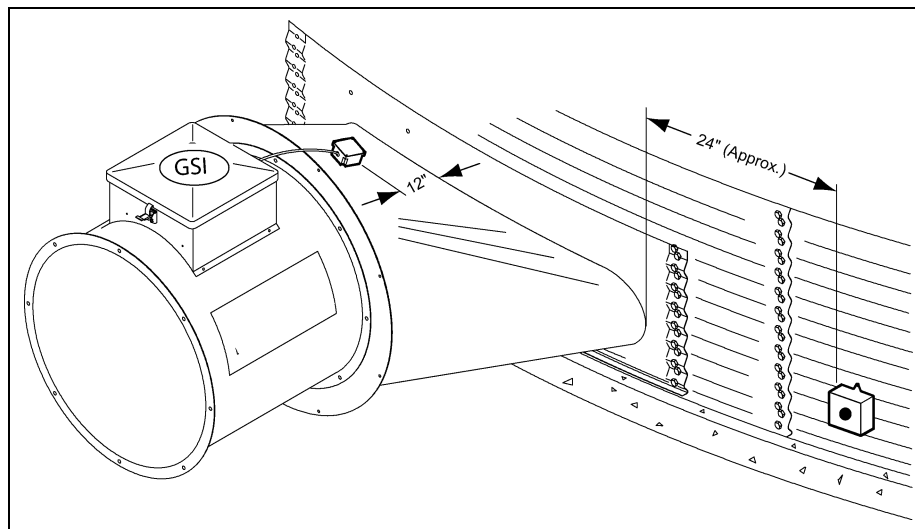

**Figure 3C**
**IMPORTANT:** When mounting two (2) heaters on a bin it is imperative that they be situated as in Figure 3C. Plenum thermostat must be to the right of master heater and master heater must be to the right of slave heater.